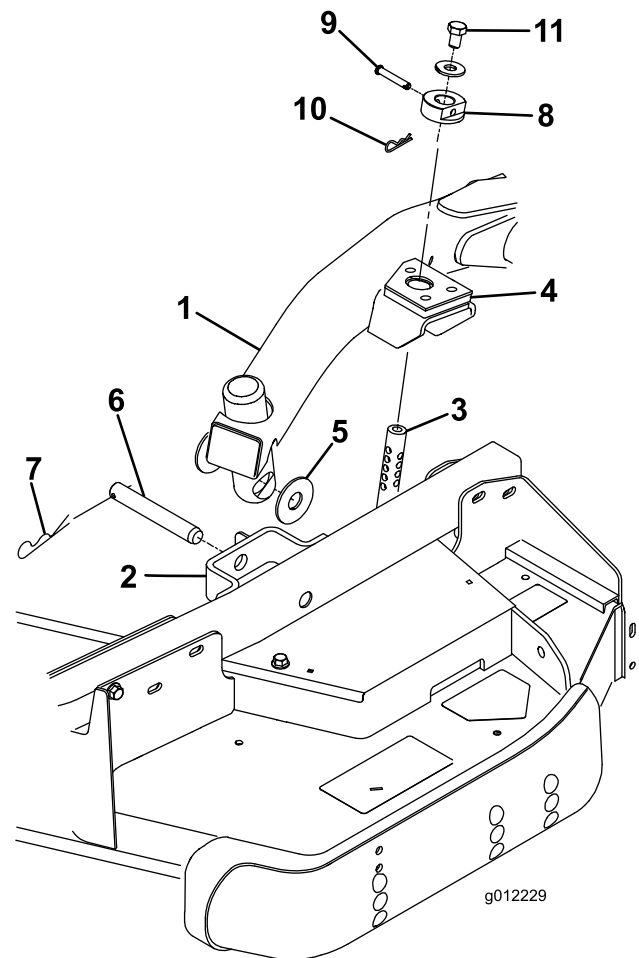

Figure 26
4. Move the lift lever to the Float position. Push a lift arm down until the holes in the lift arm line up with the holes in the castor arm bracket and the height of cut rod can be inserted into the lift arm pads (Figure 26).
5. Secure the lift arm to the castor arm with (2) thrust washers, a clevis pin and a hair pin cotter. Position the thrust washers between the lift arm and the castor arm bracket (Figure 26). Insert end of cotter pin into the slot in the castor arm tab to retain cotter pin.
9. Install the height of cut collars onto the height of cut rods and secure with the clevis pins and hair pin cotters (Figure 26). Head of clevis pin to be positioned toward the front of the deck.
10. Install a 1/2 x 3/4 inch bolt and a washer to top of each height of cut rod (Figure 26).